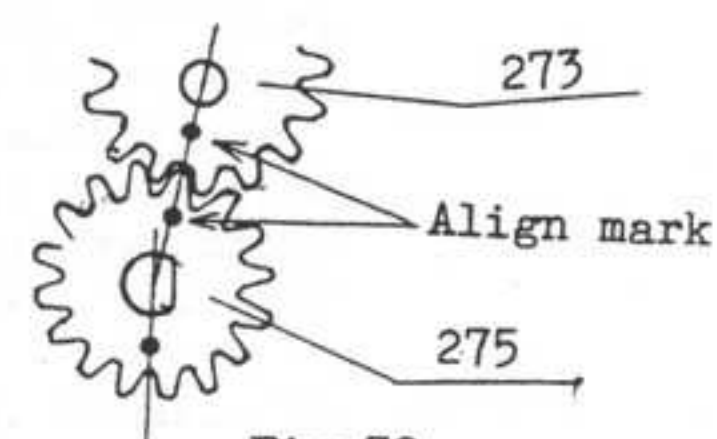

Fig 32
Fix Shutter speed gear "C" (273) interlocking with Speed gear shaft (275) as shown in Fig. 32, place Shutter speed gear "C" hold (271) on, and fix them with Shutter speed gear "C" screw (272).